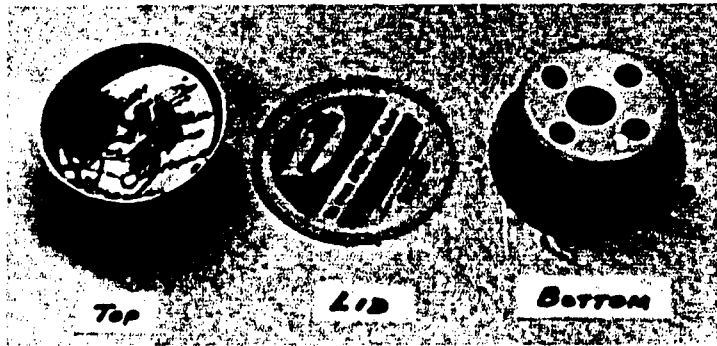

Fig. 61-13. Electronic Alarm System Parts
- 1 8 oz. plastic margarine cup with plastic snap-on lid (See Fig. 61-13.)